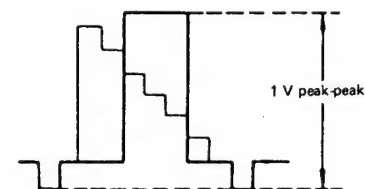

Figure 2-6
- Adjust R209 (playback level control) so that the output waveform is as shown in Fig. 2-6.